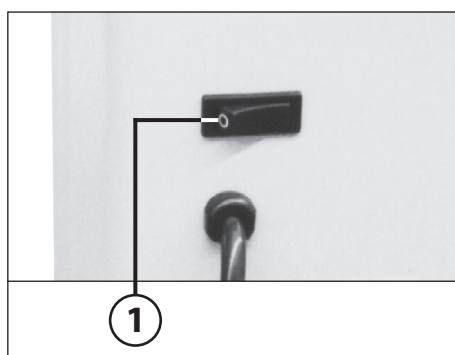

fig. 1
1 = Rocker switch „ready“ (fig. 1)
7 = Pilot lamp „door open“ (fig. 1)
To start, switch on the unit by operating the rocker switch (1) (fig. 1).
Please make sure that the shredder is switched off over night (rocker switch (1) (fig. 1).
The motor shuts down automatically, should it become overloaded. Turn the machine off with the rocker switch (1) (fig. 1).